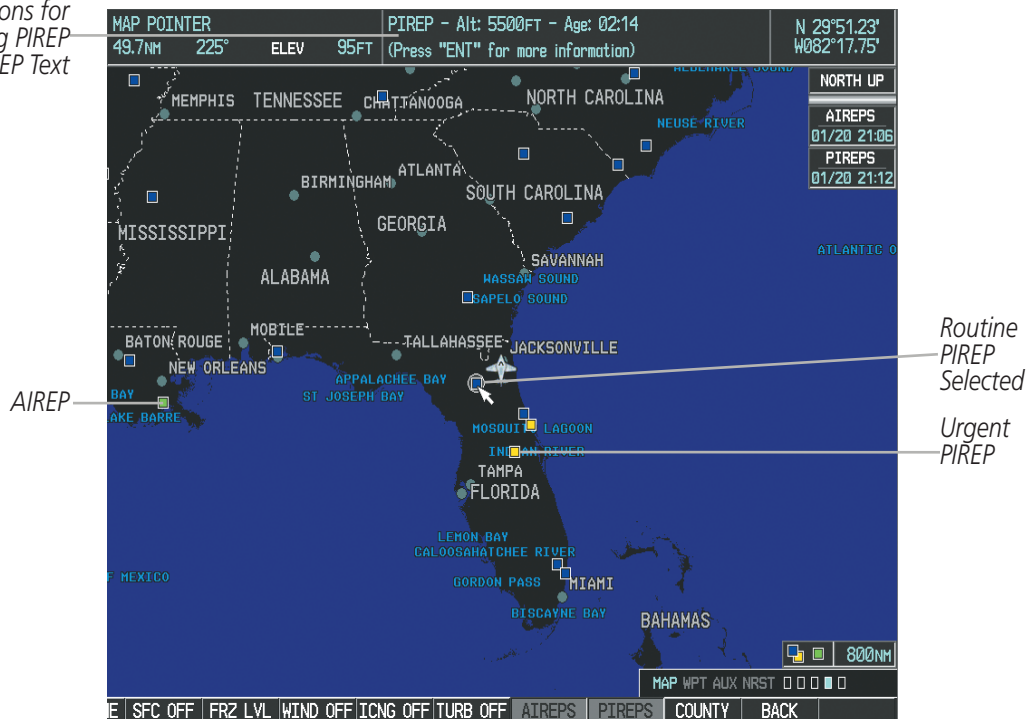

Figure 6-38 AIREPs and PIREPs on the Weather Data Link Page
Pilot Weather Reports (PIREPs) (Figure 6-38) provide timely weather information for a particular route of flight. When significant weather conditions are reported or forecast, Air Traffic Control (ATC) facilities are required to solicit PIREPs. A PIREP may contain unforecast adverse weather conditions, such as low in-flight visibility, icing conditions, wind shear, and turbulence. PIREPs are issued as either Routine (UA) or Urgent (UUA).